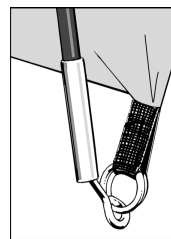

Figure 1.
- Locate one end of each pole onto the corresponding metal pin. The metal pin inserts into the hollow metal ferrule on the end of each pole. (See Figure 1). Push the pole into a curve from the opposite side, one at a time, and locate all pole ends onto the metal pins.